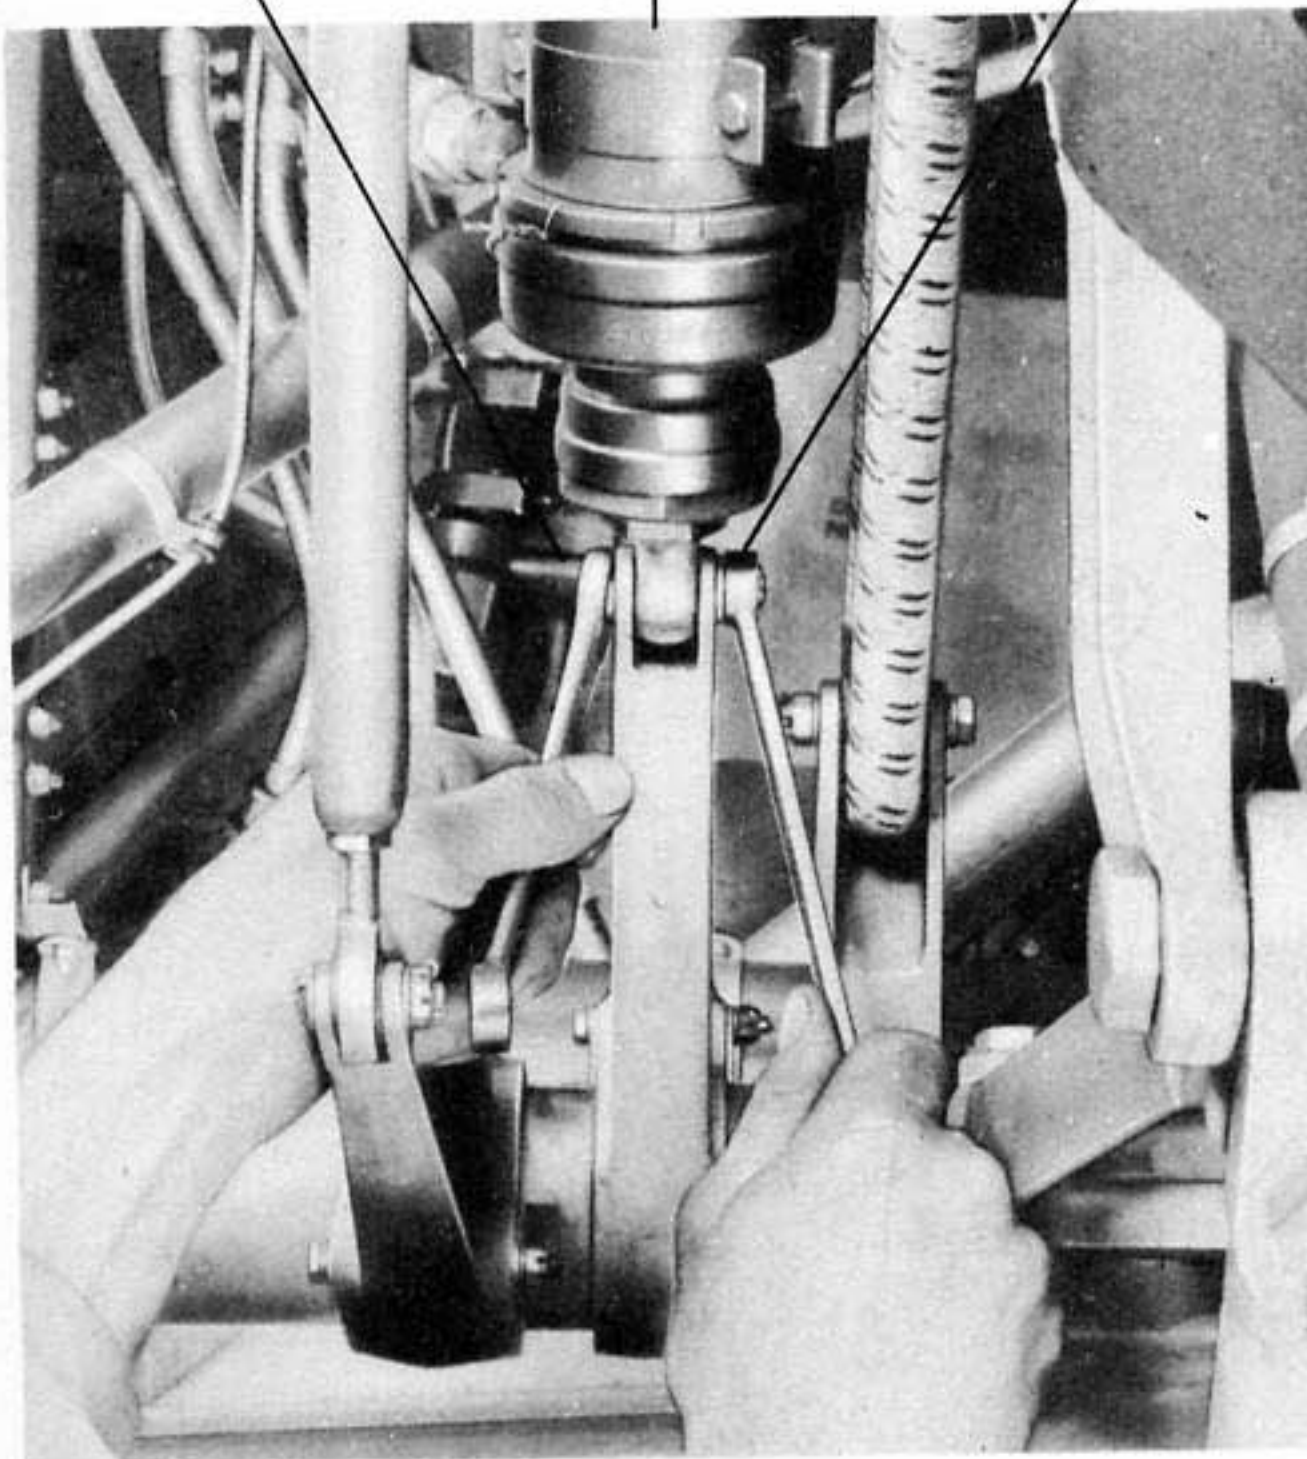

Figure 77 - DISCONNECTING ALIGHTING GEAR ACTUATING STRUT AT LOWER END
(f) With the bottoming cap of the actuating strut backed full out and locked, disconnect the strut at its lower end. (See figure 77.) Apply 850 pounds per square inch DOWN pressure and then adjust the piston eyebolt to match the hole in the lever arm (21) and insert the bolt.